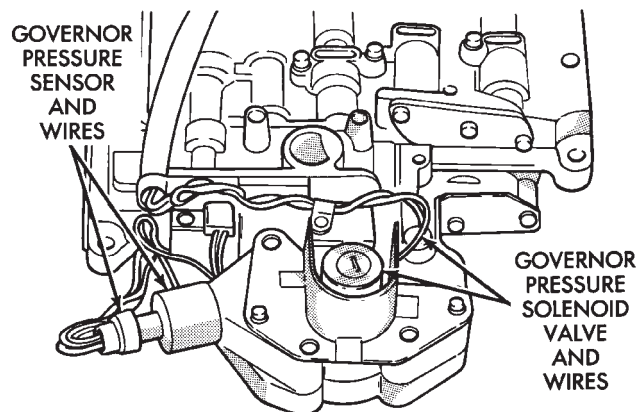

Fig. 90 Governor Pressure Solenoid And Sensor Wire Locations
- (1) Disconnect wires from governor pressure sensor and solenoid (Fig. 90).